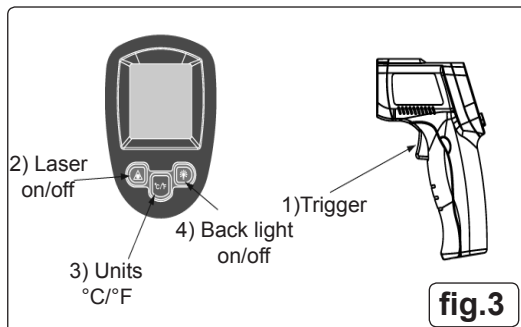

fig.3
- 4.1 Depress the trigger (1) in fig 3 to switch on the unit, the 'SCAN' icon will illuminate.
- 4.2 Decide what units are required by pressing the °C/°F button (3) in fig 3. The button will toggle between the specified units.
- 4.4 The unit is equipped with a laser for the purpose of aiming only. With the laser button (2) in fig 3 in the 'on' or 'off' mode, aim at the target surface and depress the trigger. The temperature of the target surface will be displayed on the LCD display screen. When the trigger is released the reading will be held for 7 seconds approximately; the 'HOLD' icon will be illuminated in this period; and then the thermometer will automatically shut down unless the trigger is depressed again.